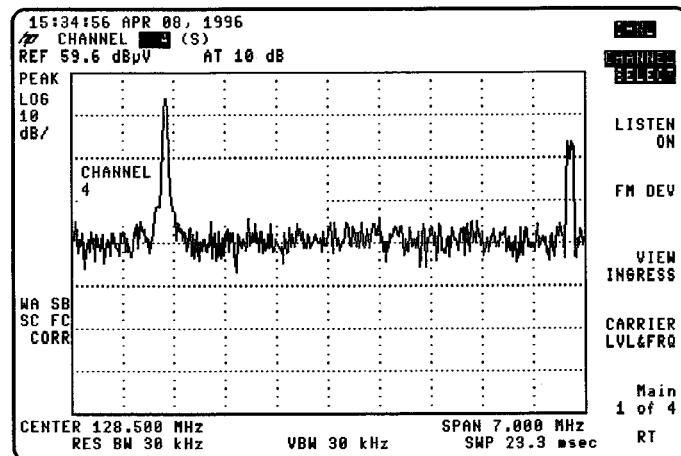

Figure 2-7. Channel Select
2. If you selected **TUNE BY CH FREQ** (CH) from the Setup menu, the message "CHANNEL ?" is displayed. (See Figure 2-7) Tune the analyzer as follows. Otherwise proceed from step 3.